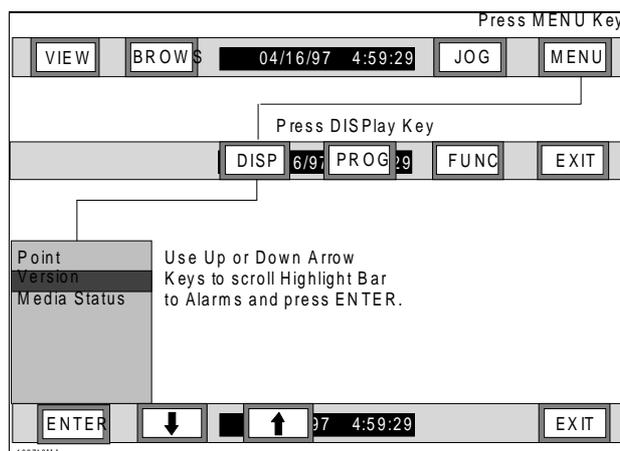

Figure 3-25 Display Alarms Flow Chart
B. Alarms - To display an Alarm status on the Status Line, Refer to Figure 3-25 and perform the following: